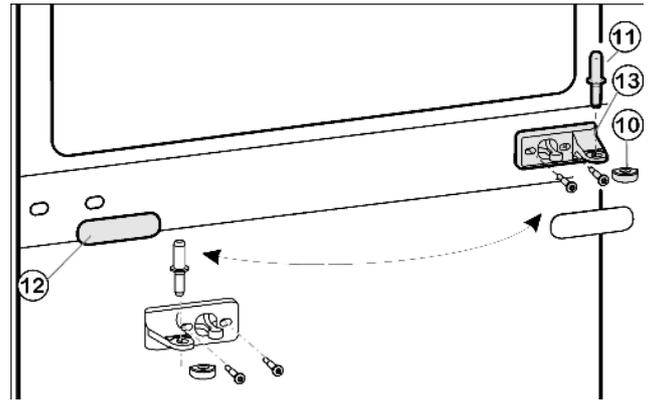
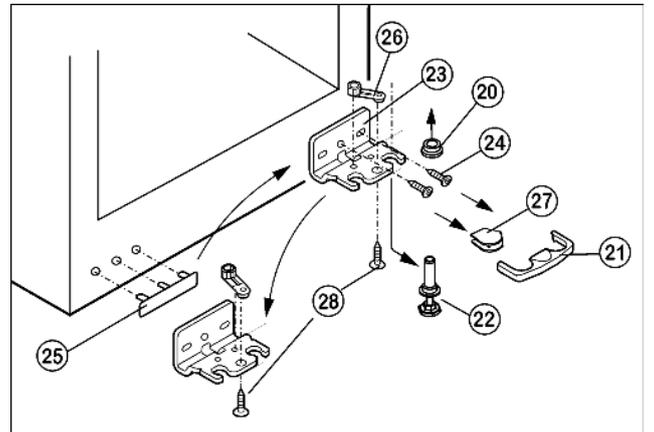

Fig. 5
Fig. 6
- ▶ Draw the middle bearing pin Fig. 5 (11) out of the turn hinge and lower door.
- ▶ Remove the plastic cap Fig. 5 (10).
- ▶ Detach the middle turn hinge Fig. 5 (13).
- ▶ Carefully detach the cover panel Fig. 5 (12).
- ▶ Turn the middle turn hinge Fig. 5 (13) 180° and transfer it to the new hinge side.
- ▶ Turn the cover panel Fig. 5 (12) through 180° and snap it into place again on the new handle side.
- ▶ Draw the safety lock Fig. 6 (21) forwards for removal.
- ▶ Remove the cover Fig. 6 (27).\*
- ▶ Fully retract the adjustable-height foot Fig. 6 (22).
- ▶ Pull out the bearing pin Fig. 6 (22) downwards and forwards. In so doing, pay attention to the hinge bush Fig. 6 (20).
- ▶ Unscrew the turn hinge Fig. 6 (23) (2 Torx 25) Fig. 6 (24).
- ▶ Unscrew the bearing part Fig. 6 (26) (1 Torx 25), Fig. 6 (28) transfer it to the opposite hole in the turn hinge and screw it down again.
- ▶ Carefully lift off and transfer the cover Fig. 6 (25) on the handle side.
- ▶ Screw down the turn hinge Fig. 6 (23) on the new hinge side, possibly with the aid of a cordless screwdriver, through the outer oblong hole and round hole.
- ▶ Place the cover *Fig. 6 (27)* on the opposite side.\*
- ▶ The safety lock (21) has to engage with the turn hinge at the side so that the bearing pin and therefore the door are secured.
- ▶ Snap the safety lock (21) onto the turn hinge again.
- ▶ Put on the hinge bush *Fig. 6 (20)*.
- ▶ Place the lower door from above onto the lower bearing pin *Fig. 6 (22)*.
- ▶ Place the plastic cap *Fig. 5 (10)* back onto the middle turn hinge *Fig. 5 (13)*.
- ▶ Place the middle bearing pin *Fig. 5 (11)* in the lower door, on the new hinge side, through the middle turn hinge *Fig. 5 (13)*.
- ▶ Place the upper door on the middle bearing pin *Fig. 5 (11)*.
- ▶ Transfer the middle screw of the lower turn hinge *Fig. 6 (23)* into the free oblong hole.
- ▶ If necessary, align the doors to the appliance housing by way of the two oblong holes in the lower turn hinge *Fig. 6 (23)* and middle turn hinge *Fig. 5 (13)*.